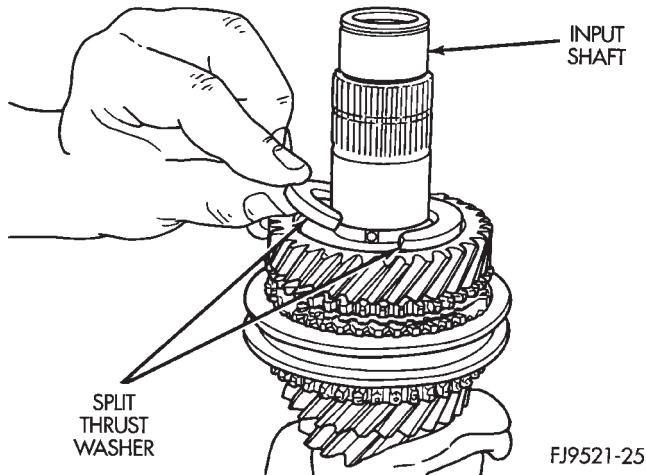

Fig. 92 Split Thrust Washer Removal
(5) Remove split thrust washer (Fig. 92).